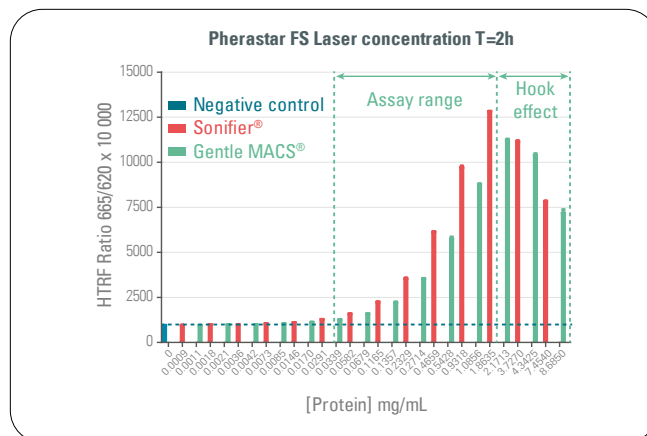

Figure 2: Example with TAU aggregation assay.
5. Fig. 2 shows an example with Tau aggregation assay. As you can see, for high protein concentrations (above 1.86 mg/ml), the signal decreases, meaning the Hook effect is beginning, and we are no longer in the linear range of detection. The actual assay range is between 0.033 and 1.86 mg/ml.